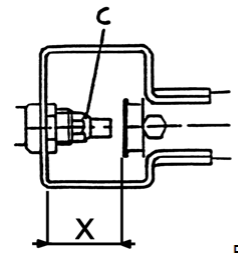

Fig. 3
4.2 Regulating the primary air (Fig. 3)
The distance foreseen for regulation of the primary air is shown in Figures 3 and indicated in tables 2. Unscrew the injector "E" with a 12 mm spanner and mount the appropriate injector. Check the exact distance "X" for the primary air.
In order to change the injector "C" (Fig. 3) remove, by pulling it, the control panel. Using a spanner unscrew the injector and replace it according to table 2.